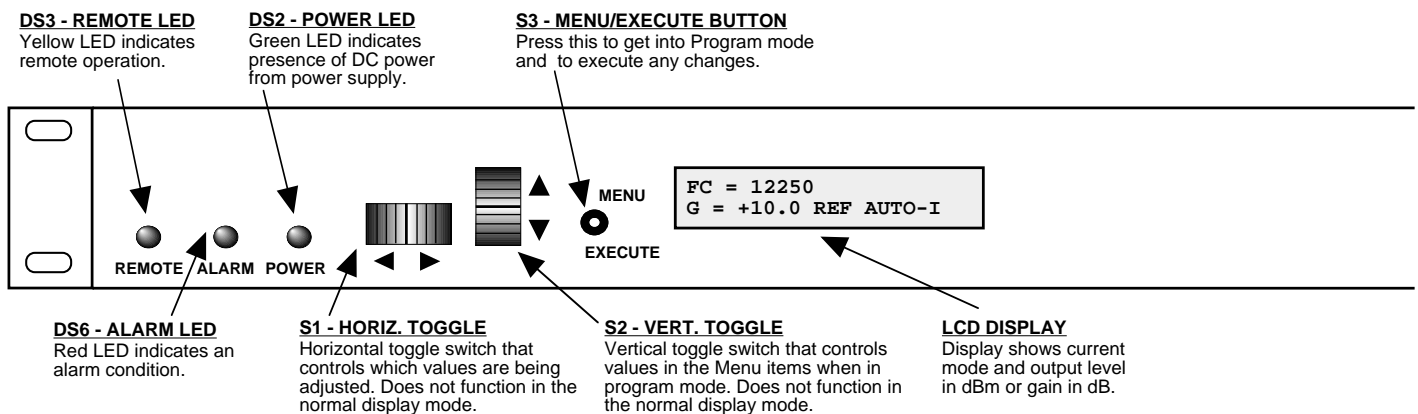

FIGURE 2.2 3115-107-1975 Front Panel Controls and Indicators
Figure 2.2 shows the front panel controls and indicators.
5. Be sure DS2 (green, DC Power) is on and DS6 (red, Alarm) is off (Figure 2.2).
Alarm indications appear on the LEDs (see Figure 2.2).